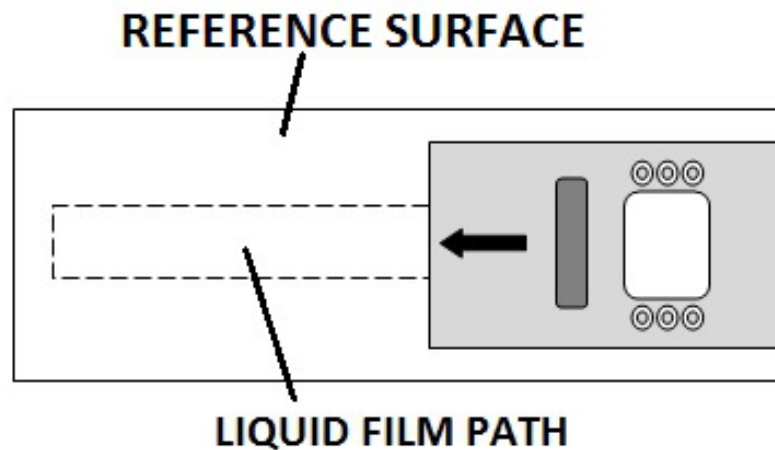

Figure 6
3. Return the device to its operating position (wheels down) centered over the reference surface, with the rear edge approximately even with back edge of the tile as shown below (Fig.6). Arrows on the sides of the device indicate the approximate front-to-back location of the sensor. **NOTE:** This operation should be conducted on a hard, level, flat surface and never over carpet.